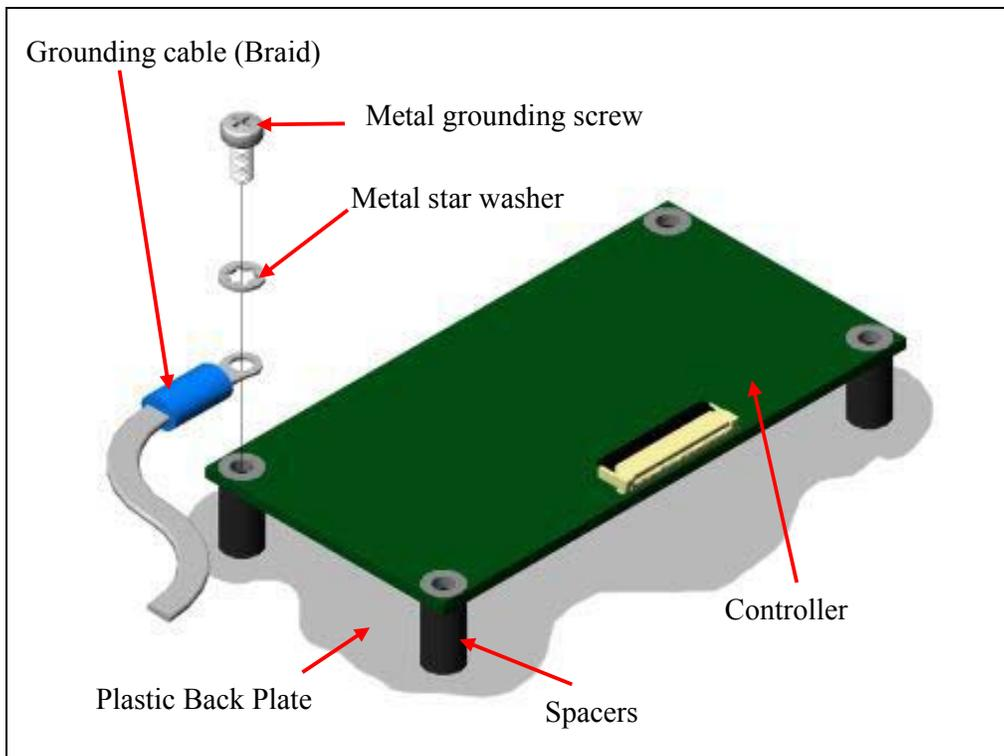

Figure 8: Controller PCB Card Mounted with flying ground lead
- If in some integration scenarios there is no metal back plate to ground the controller to chassis ground then an external flying grounded braid lead must be used to connect at least one of the Controller PCB mounting holes to the nearest chassis ground potential, as shown in Figure 8. Ensure that the flying grounding lead is kept as short as possible.